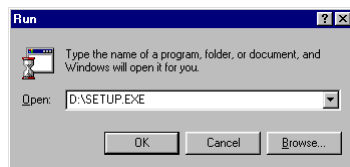

Figure 4: Installation in Windows 95, 98 and NT 4
4. On the command line, type [D:\SETUP.EXE], then click on 'OK' (Figure 4).